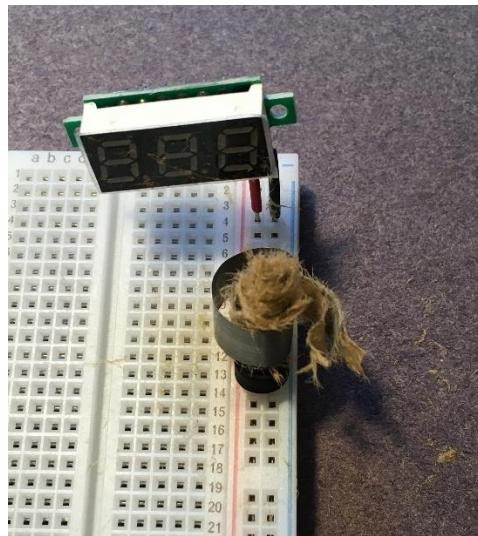

Figure 13.10 Why you should never connect an electrolytic capacitor in reverse polarity.
5. Always pay attention to the polarity of electrolytic capacitors and how they connect into the power rail. If the capacitor is connected in the reverse polarity, it may explode, as shown in **Figure 13.10**.